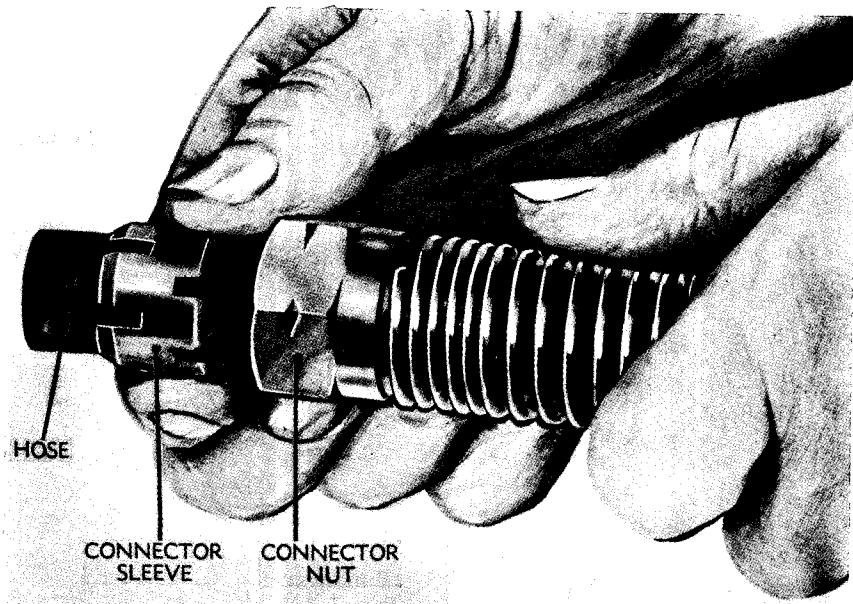

Figure 192. Connector nut and sleeve positioned on hose.
- c. Position connector nut and sleeve on hose (fig. 192) being sure the barbs on the inside of the sleeve point toward the end of the hose.